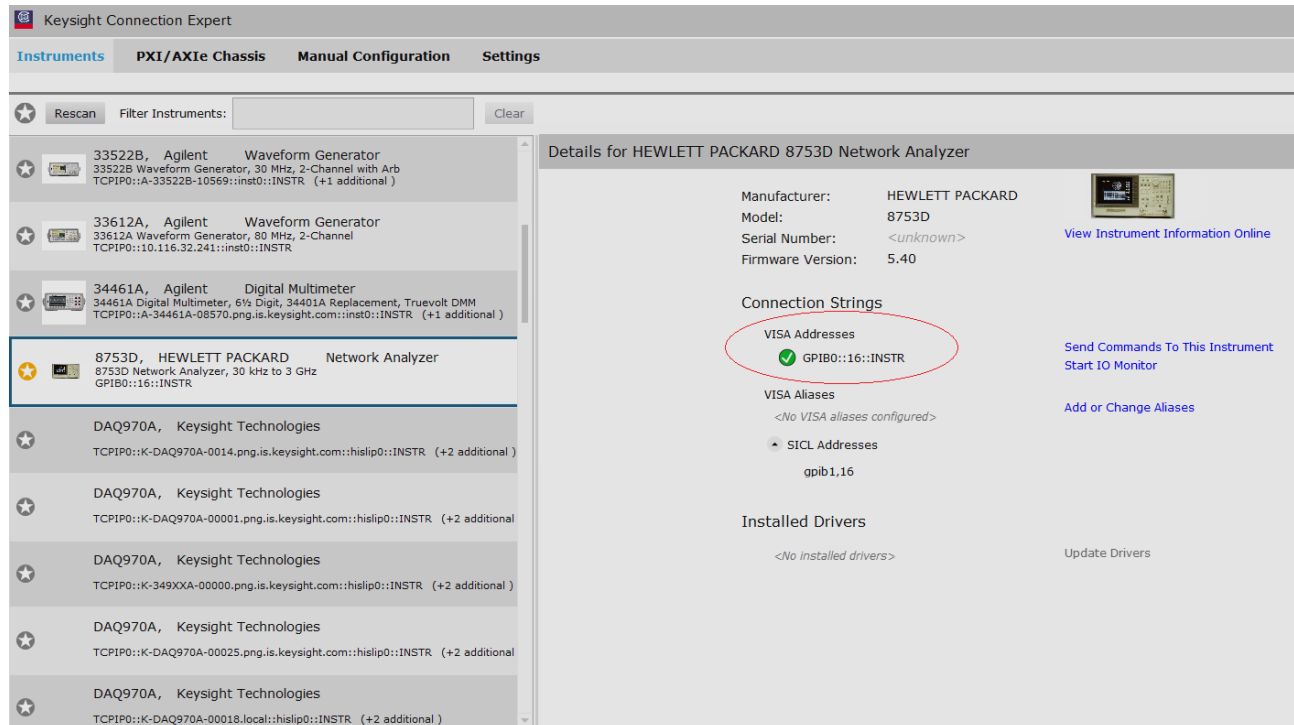

Figure 41 Checking VISA/SICL Address for Vector Network Analyzer in the Keysight Connection Expert
- b A pop-up box appears where you can enter either the VISA/SICL address or the IP address. Enter the information and click the **Verify** button, followed by the **Done** button to close this box. The VISA/SICL address or the IP address can be obtained from the Keysight Connection Expert application, as shown in Figure 41.